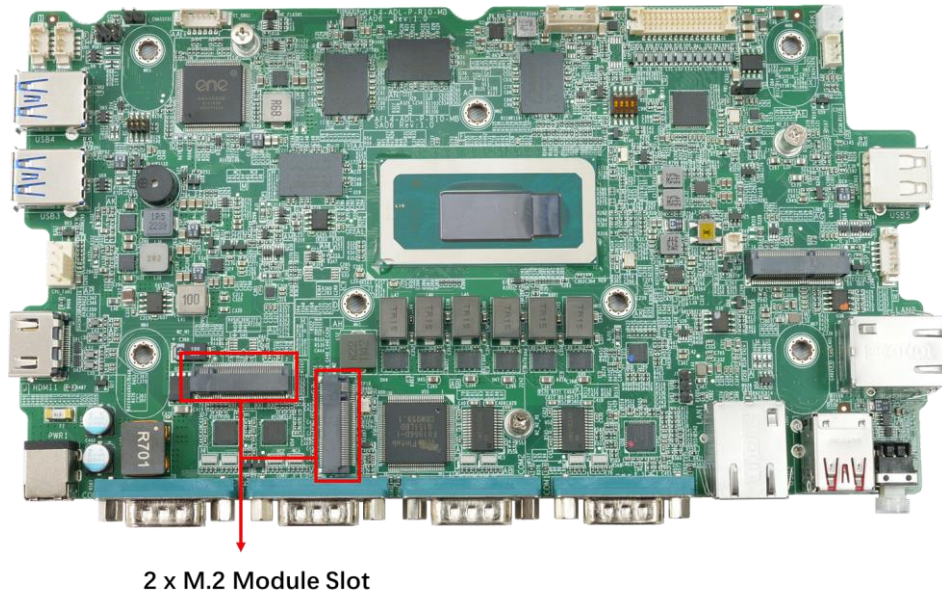

Figure 3-3: M.2 Module Slot Location
- Step 2:** Locate the M.2 card slot. Remove the preinstalled retention screw on the standoff of the M.2 card slot as shown in **Figure 3-3**.